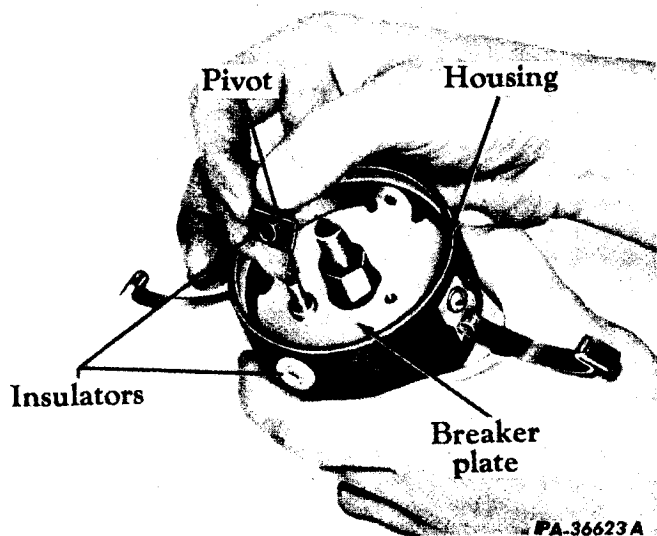

Fig. 8 - Removing Inside Terminal Insulator.
9. Remove the terminal screw nuts, lock washers, brass washers, terminal insulators and terminal screw from the housing (Fig. 8).
11. Remove the remaining slotted screw (opposite the terminal screw opening) which secures the breaker plate to the housing; lift the breaker plate from the housing (Fig. 8).